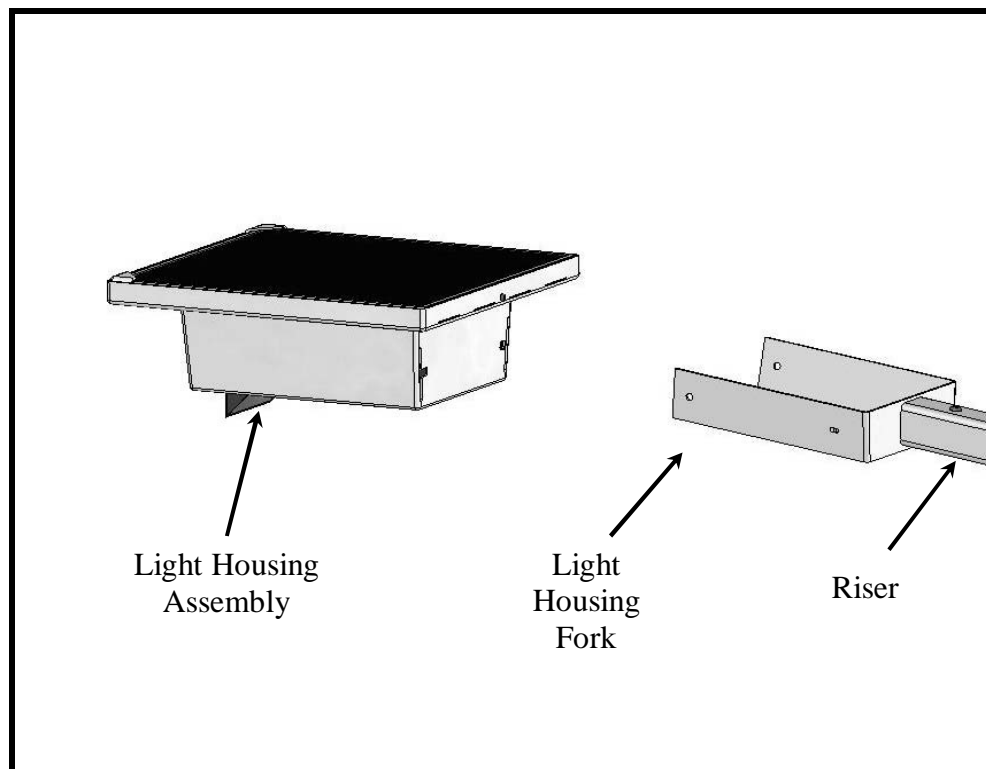

Figure 45 – sentinel™ solar lite housing installation
- a) Retrieve the housing assembly and carefully position it (with solar panel facing up) so that the fork slides into the slots at the back of the housing. When the housing slides all the way down, there should be two “POPPING” or “CLICKING” sounds indicating that the housing is properly seated on the mounting fork. *See Figure 45.*